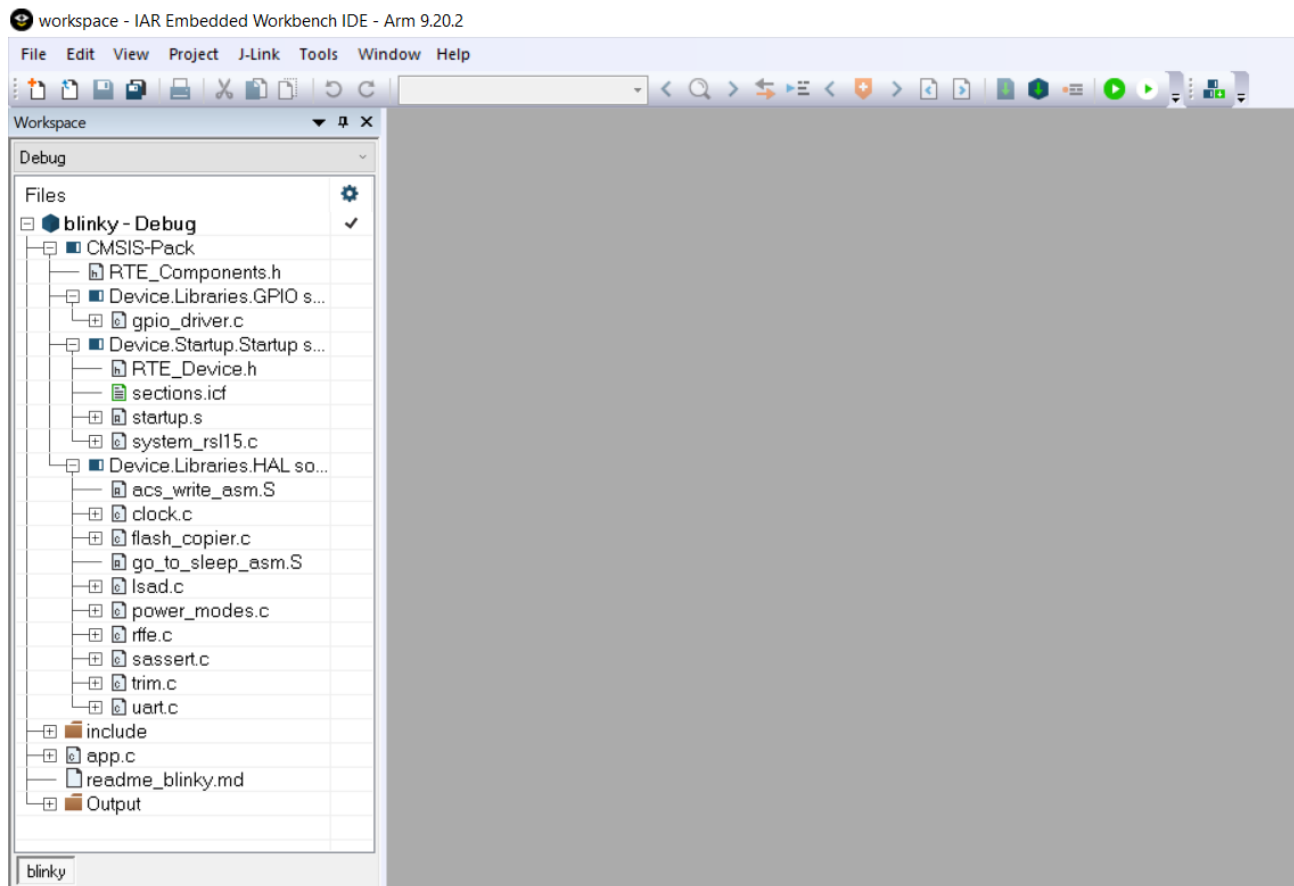
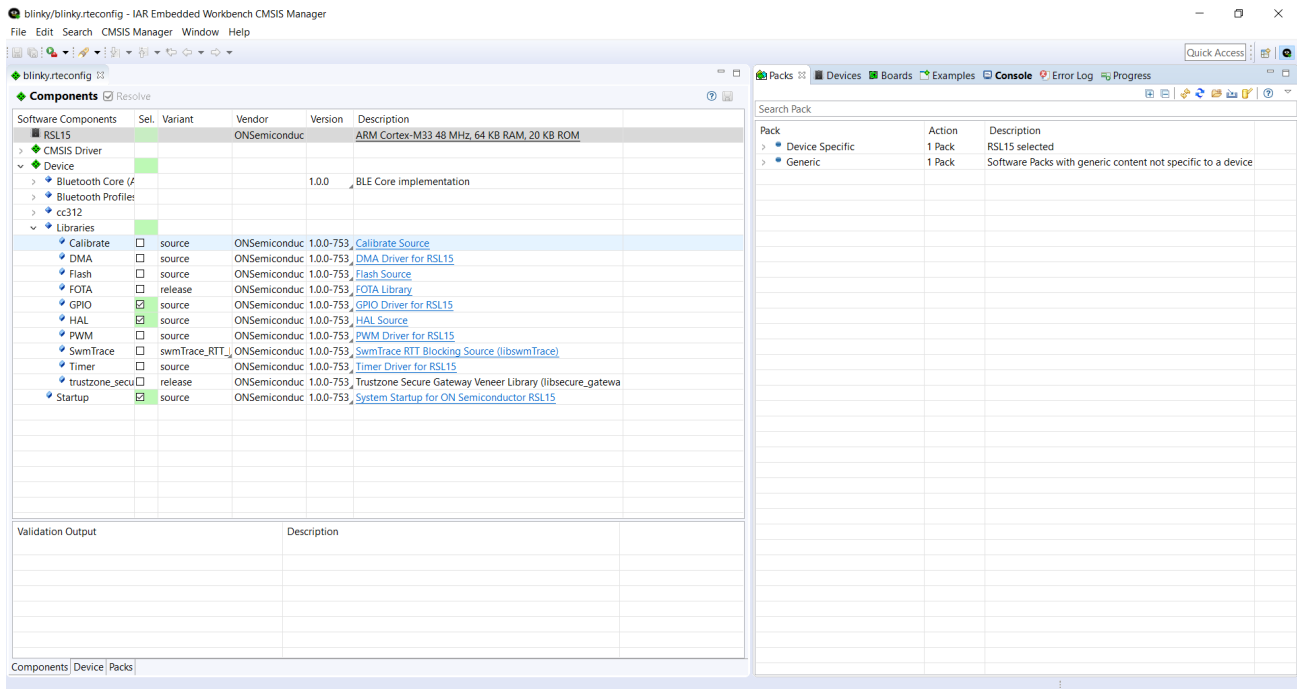

Figure 37. RTE Configuration for the Blinky Example Project in the IAR Embedded Workbench Window
Figure 38. RTE Configuration for the Blinky Example Project in the IAR Embedded Workbench CMSIS Manager Window
For the blinky sample, the Startup, HAL and GPIO components are preconfigured with the source variant, so the source code of these libraries is included directly (see the "RTE Configuration for the Blinky Example Project in the IAR Embedded Workbench CMSIS Manager Window" figure (Figure 38) and the "RTE Configuration for the Blinky Example Project in the IAR Embedded Workbench Window" figure (Figure 37)).
- The application runs up to the first breakpoint in *main*. You can press F5 or click the Run icon (as shown in Figure 38) multiple times to step through the code and observe that the LED changes its state when the application executes the line `gpio->ToggleValue(SYSTICK_STATES_GPIO)`. To stop the debug session, press the Stop icon.